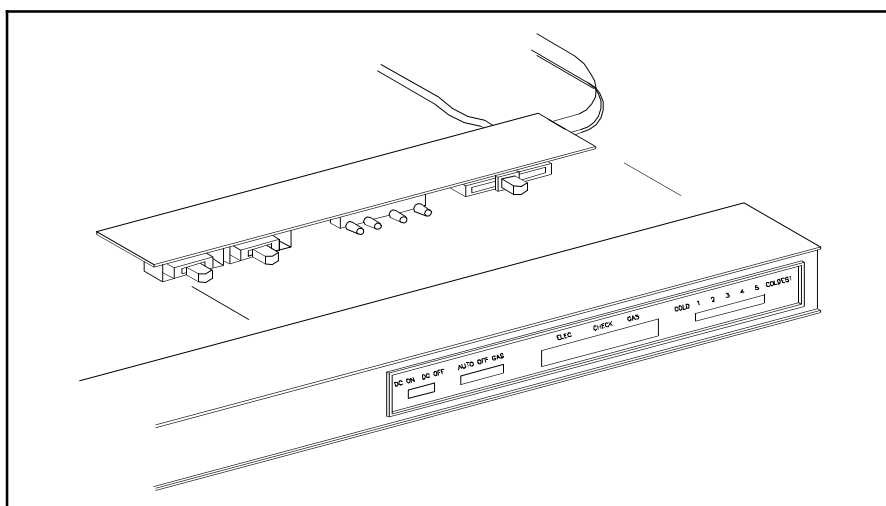

Figure 11.57 Eyebrow Board Removal
13. Remove the Eyebrow board from the Eyebrow assembly as shown in Figure 11.57. Do not disconnect the cable or thermistor from the Eyebrow board.